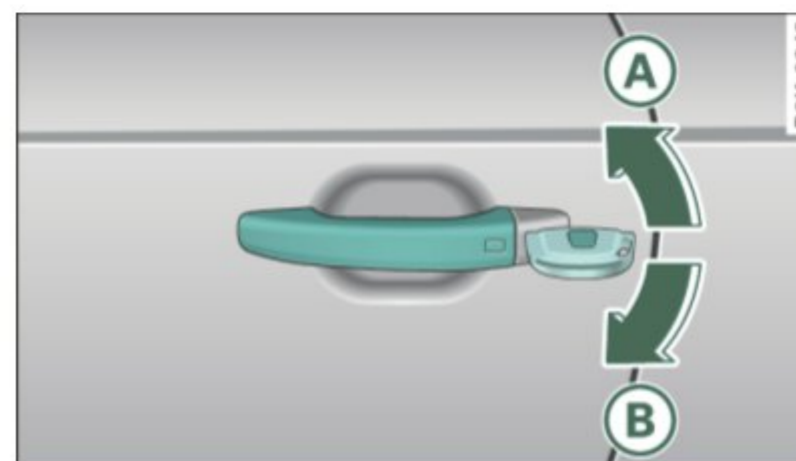

Fig. 36 Key turns for opening and closing
- Turn the mechanical key to position **A** ⇒ *fig. 36*.